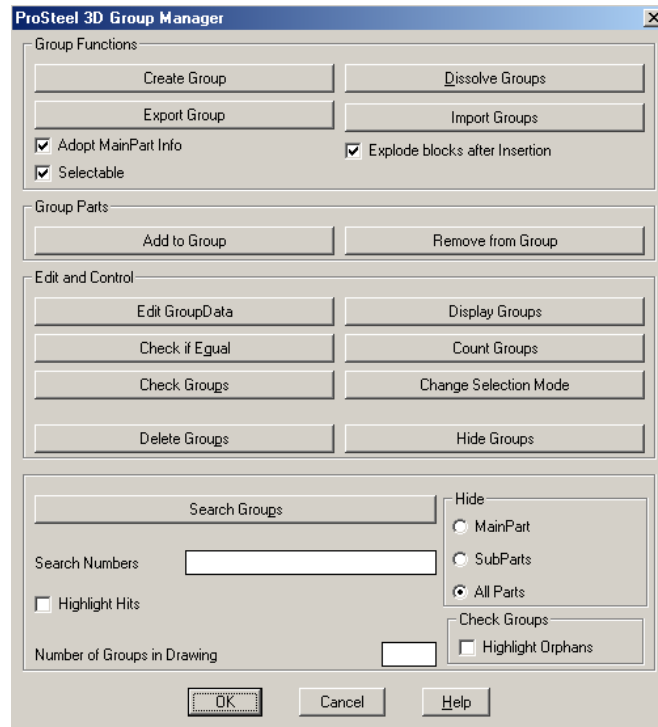

Fig 12
3. To check what is grouped then we need to click the “*check groups*” button, Fig 12, and this will show us what is grouped by vanishing all that is grouped. This will allow you to group what is left on the screen. To bring all the members and connections back again click “*Display Groups*”. If you have some connections that are missing on the members that have already been grouped, then you use “*Add to Group*”. Note: A connection member or part can only belong to one group.